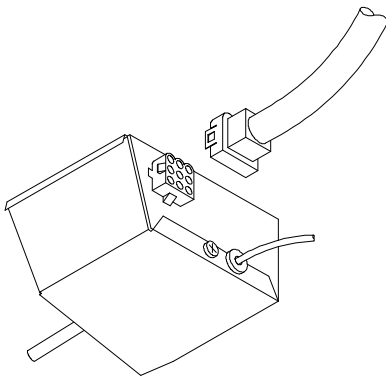

FIGURE 8
- B. Take the roof top air conditioner 115 VAC electrical conduit and plug it into the back of the thermostat control box. Make sure that the “ridged” side of the plug is aligned and matched with the “ridged” side of the thermostat control box connection. **DO NOT USE EXCESSIVE FORCE** and make sure the lock-in tabs are snapped in place. See Figure 8.